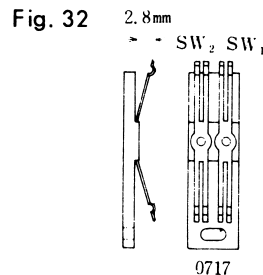

Fig. 33
(2) SW₃ (Timing SW) adjustment
- ① Adjust the space between contact segment and its bearer to be about 0.5mm when they are released. See Fig. 33.
- ② Adjust contact segment and its bearer so that the former pushes the latter in about 0.2mm when they are set.